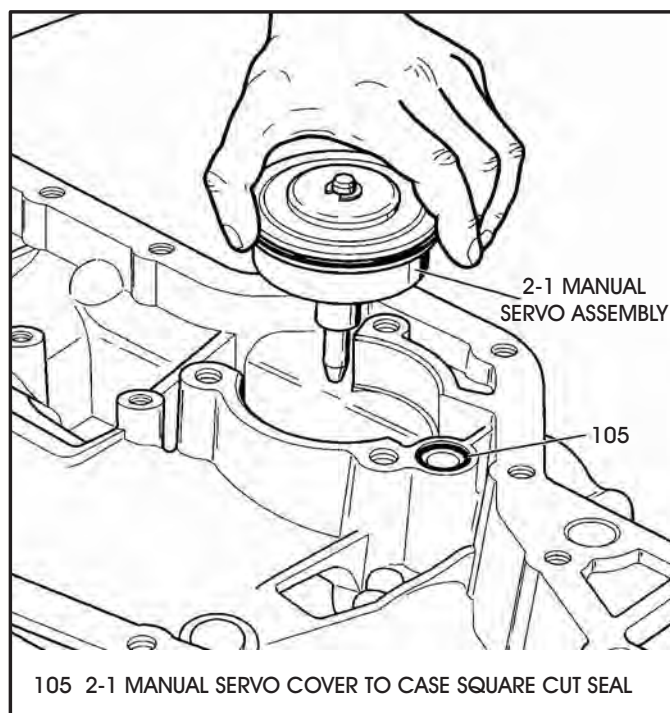

Figure 214
2. Install new 2-1 manual servo cover to case seal into case pocket, as shown in Figure 214.
3. Install the 2-1 manual servo assembly into the case pocket, as shown in Figure 214.